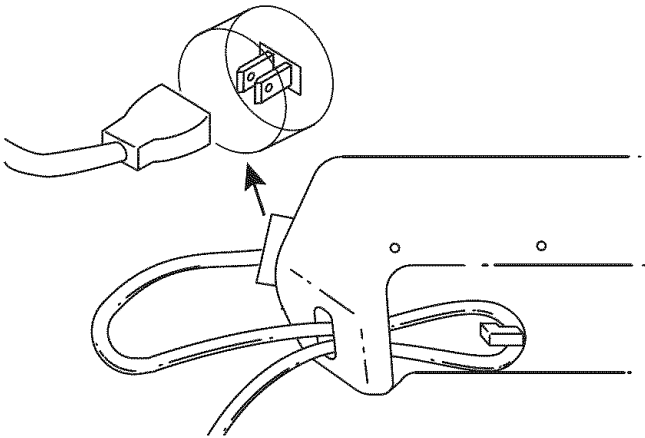

Fig. 9
1. Use the cord hook when you connect the extension cord to the power cord to prevent disconnection (Fig. 9). Use only an outdoor-approved extension cord as specified in the SAFETY RULES section.